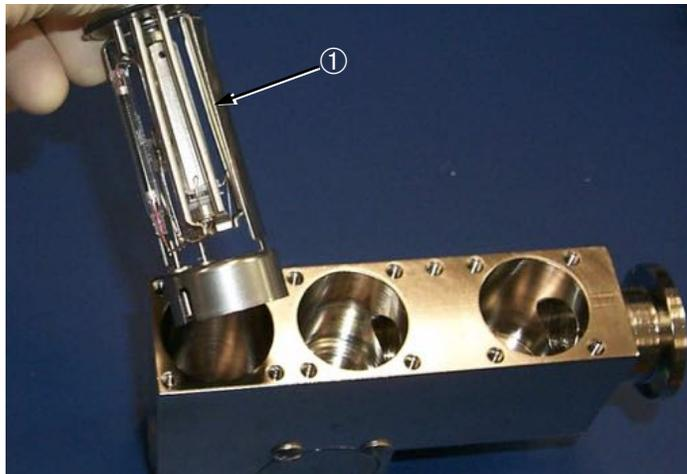

Figure 5-13 Removing the Preampifier
2. Carefully remove the preampifier ① from the spectrometer tube body (Figure 5-13) and place it carefully on a clean, safe, non-magnetic surface.